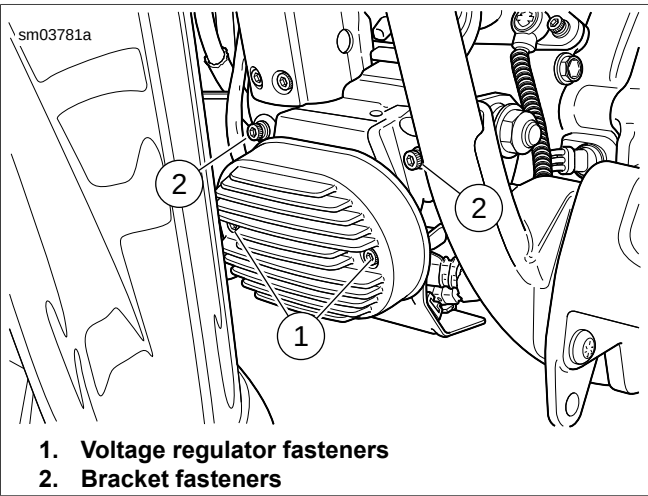
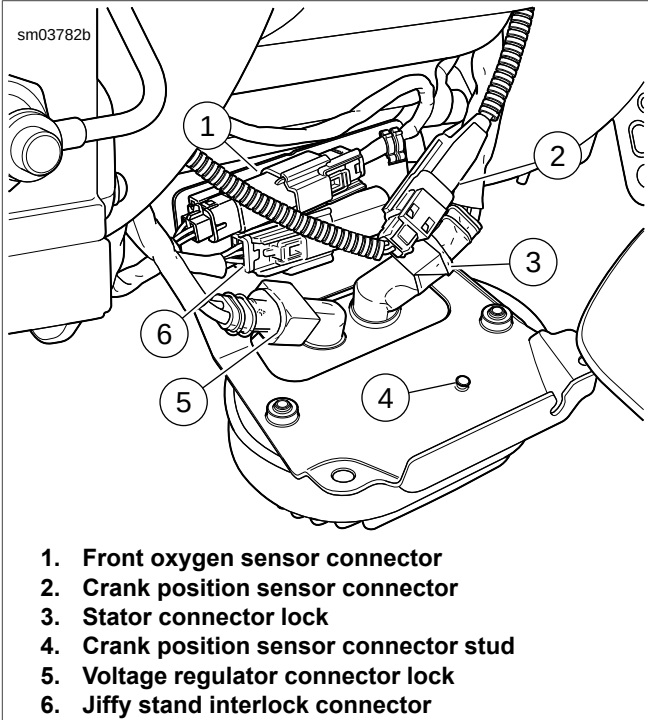

Figure 7-79. Voltage Regulator
Figure 7-80. Voltage Regulator Connectors
3. See Figure 7-79. Loosen fasteners (1) securing voltage regulator.
4. Remove fasteners (2) securing voltage regulator bracket to crankcase.
5. See Figure 7-80. Rotate connector locks (3, 5) out of the way and disconnect voltage regulator connectors.
1. See Figure 7-79. Install voltage regulator to regulator bracket with fasteners (1). Do not tighten fasteners at this time.
2. See Figure 7-80. Connect voltage regulator connectors and rotate connector locks (3, 5) down into position to secure connections.
3. See Figure 7-79. Install fasteners (2) securing voltage regulator bracket to crankcase. Tighten fasteners to 70-100 in-lbs (7.9-11.3 Nm).
4. Tighten fasteners (1) securing voltage regulator to regulator bracket to 50-80 in-lbs (5.7-9.0 Nm).